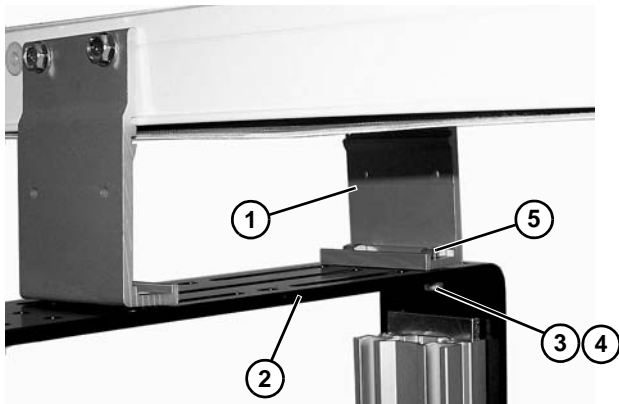

Figure 11
5. Fasten brackets (Figure 11, item 1) to support stand (Figure 11, item 2) with mounting screws (Figure 11, item 3), washers (Figure 11, item 4) and connector bar (Figure 11, item 5).